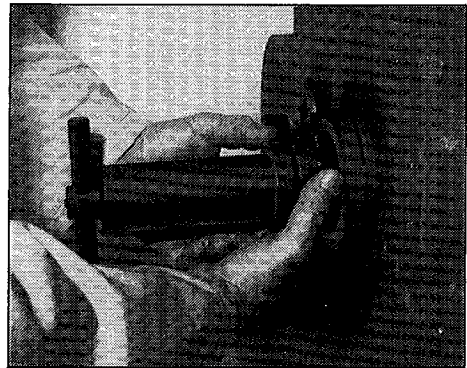

FIG. 5 ADJUSTING CUTTING DEPTH
9. Adjust the cutter cutting depth by loosening the thumb screw and rotating the feed collar clockwise (each line represents 0.001"). ( See Fig. 5.)